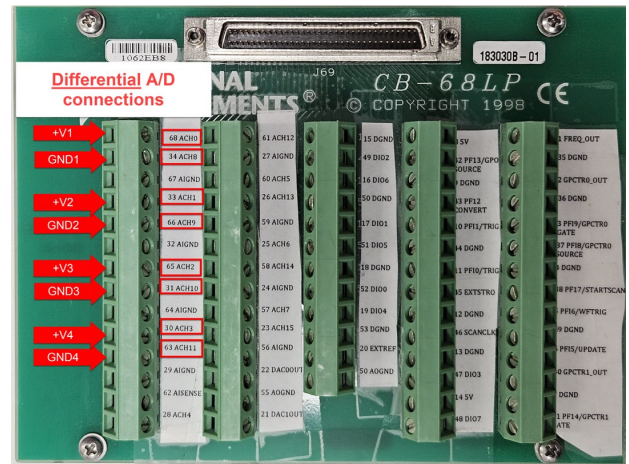

Figure 10 – Differential A/D connection
- If you select **differential**, the signals should be connected as shown in Figure 10.